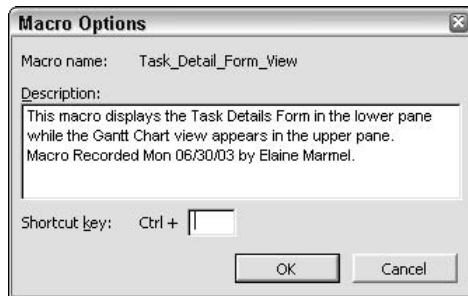

Figure 24-17: Set a keyboard shortcut for a macro from the Macro Options dialog box.
4. Click Options to open the Macro Options dialog box that appears in Figure 24-17.